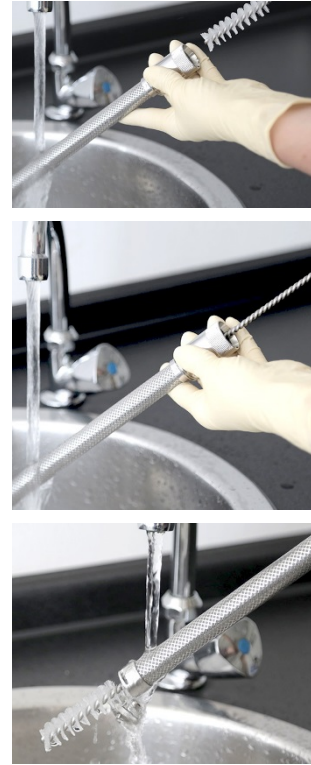

Fig. 37: Cleaning the Cleanfinity Filter
2. Clean the Cleanfinity Filter lengthways under running water (Fig. 37). At the same time, slide the cleaning brush through the filter (grip side first) to its fullest extent and pull it out. Repeat this procedure at least three times, until the central filter is visibly clean.